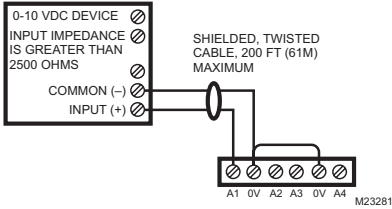

Fig. 10. Analog output wiring diagram.
Analog Outputs (AO) are referenced by the terminals labeled *An* and 0 V (ground). Each AO can supply a maximum of 4 mA over the entire 0 to 10 Vdc range. The minimum input impedance of a device controlled by an AO must be greater than 2500 ohms. Typical wiring for an AO is shown in Fig. 10.
In the Niagara station interface to the WEB-201 controller, each I/O module appears as one **NdioBoard** under the station's **NdioNetwork**. If a WEB-201 controller has only one WEB-IO-34 module, the NdioNetwork has a single **NdioBoard** component, where the "Io Port" property of the **NdioBoard** is 1. See Fig. 10, top.